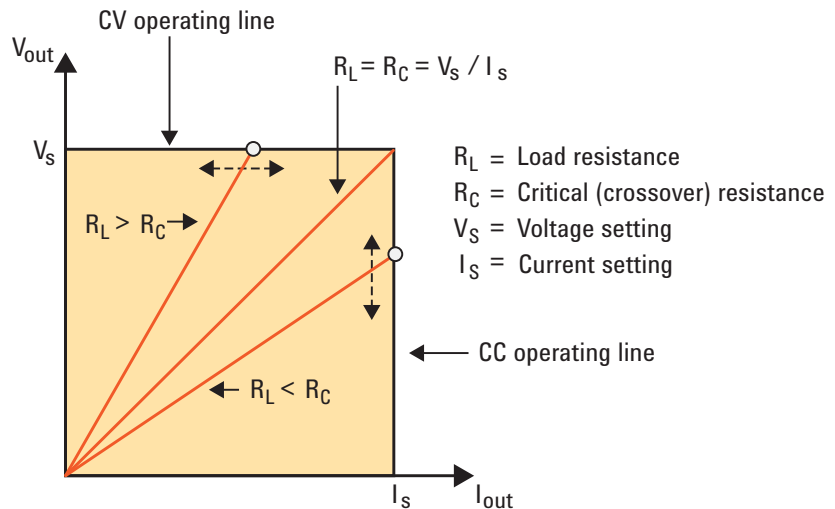

Figure 1: Power supply output characteristic
A power supply will operate in constant voltage (CV) mode provided the load does not require more current than the current limit setting. Based on Ohm's law, $V = I \times R$, maintaining a constant voltage while changing the load resistance requires the current to increase or decrease. As long as the current draw $I_{out} = V_S / R_L$ is less than the current limit setting, the power supply regulates the output at the voltage setting. In Figure 1, the power supply will operate on the horizontal line V_S with $I_{out} = V_S / R_L$.
current limit setting. This operating mode is known as constant current (CC). In Figure 1, the power supply will operate on the vertical line I_S with $V_{out} = I_S \times R_L$.
- The load resistance is R_C , the value at which the output will crossover from CV to CC, or CC to CV (see Figure 1).